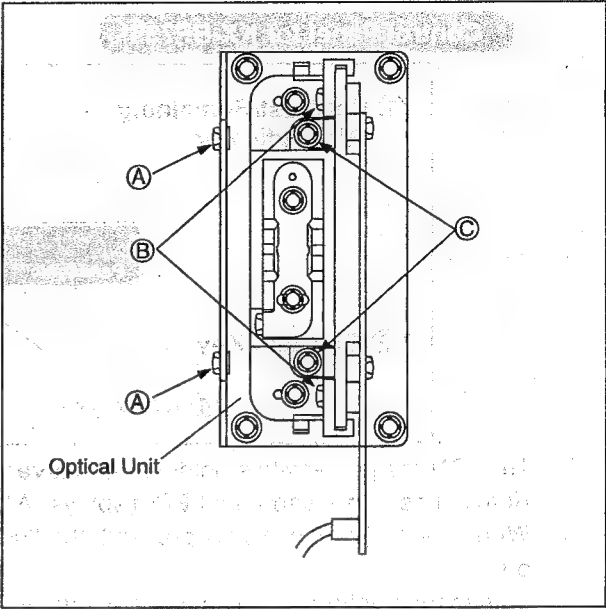

Fig. 8-2
- 1. Loosen the screws ① (2 places) as shown in the Fig.8-2 and push the optical plate as far as it will go.
- 2. Loosen the screws ② (2 places).
- 3. The CCD light axis can be adjusted by turning the screws ③. Adjust so that the normal waveform of the following figure is obtained. (Adjust until saturation is reached.)
- 4. When adjustment of the light axis has been completed, fix the CCD holder with the screws ② (2 places).